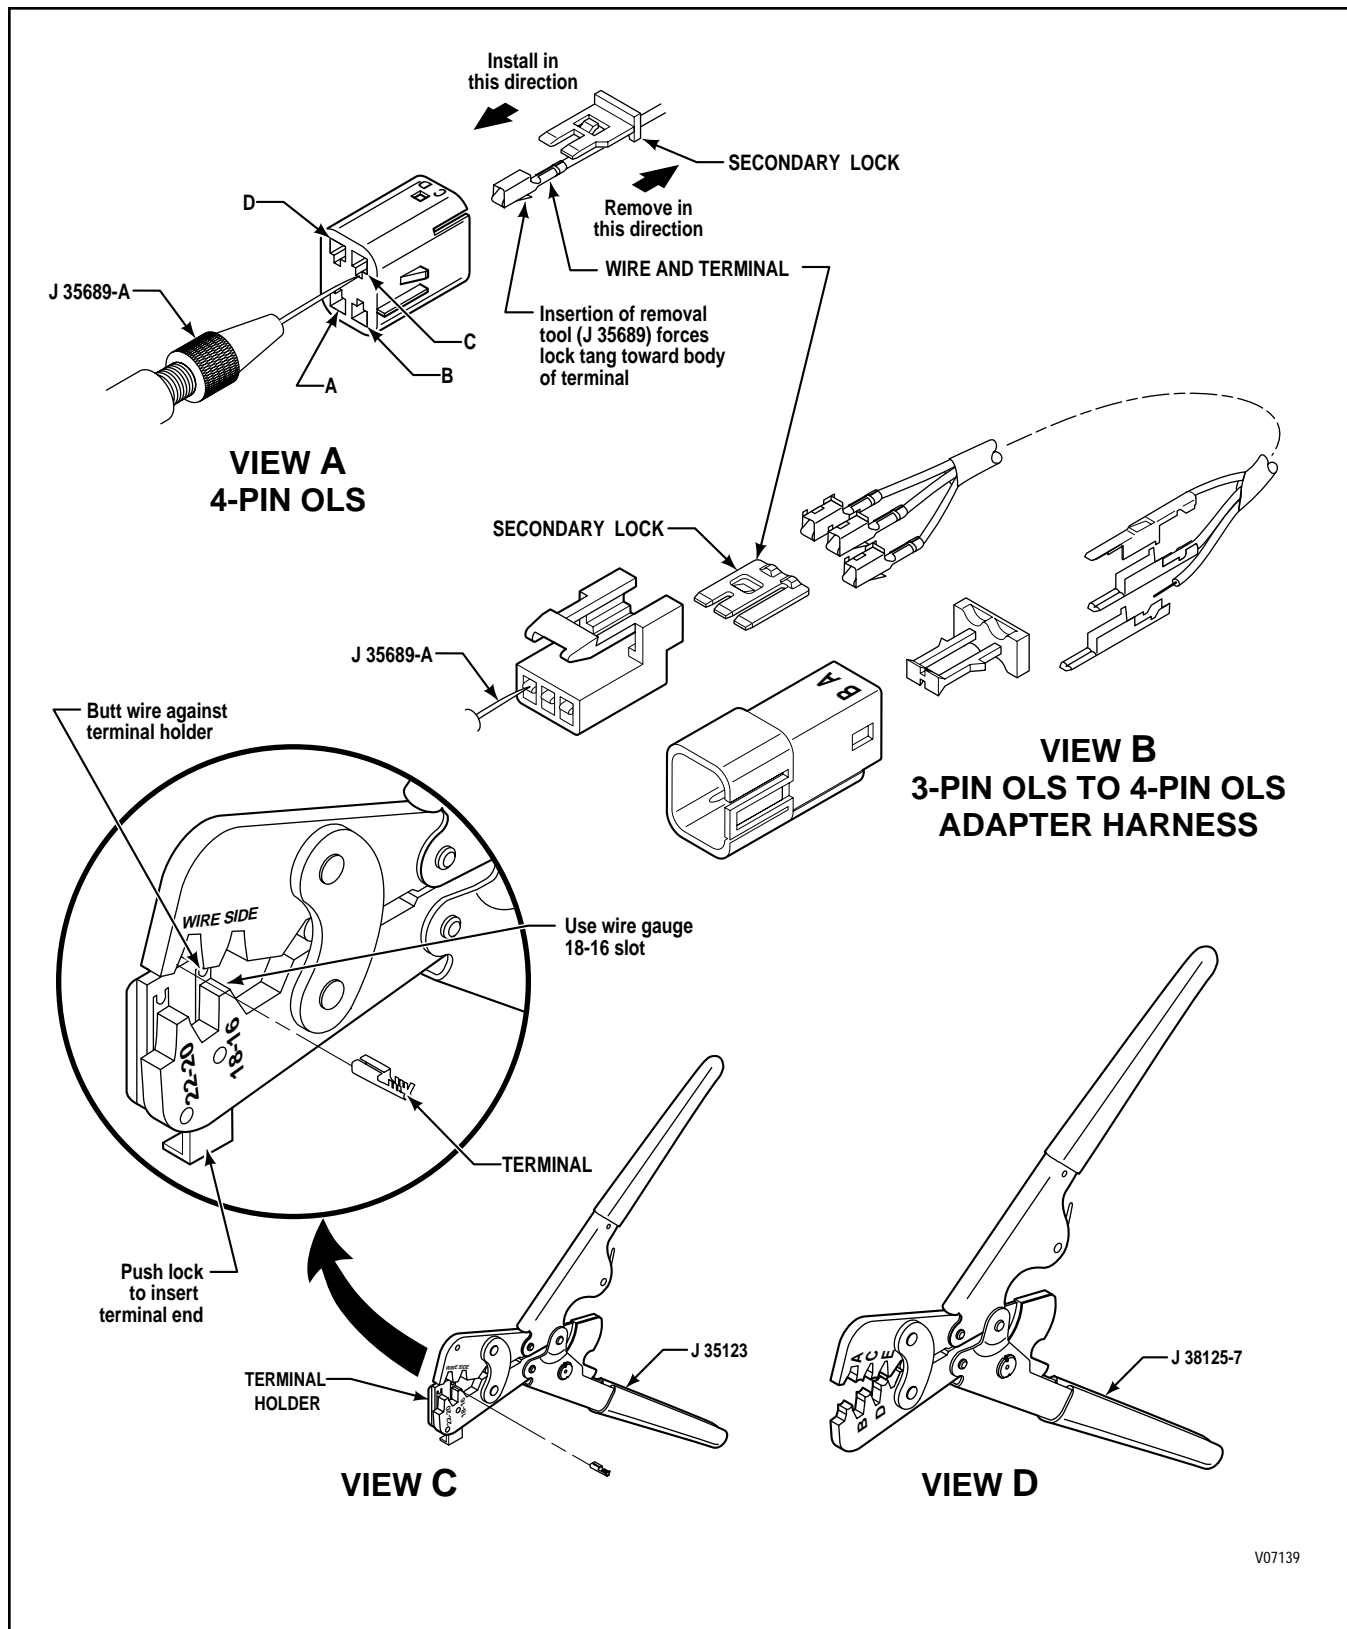

Figure E-3. Delphi-Packard Metri-Pack 150 Series Connectors — Push-to-Seat (Oil Level Sensor)
2. Insert needle end of terminal remover J 35689-A into the small notch between the connector and the terminal to be removed (Figure E-3, View A or View B). Push the lock tang toward the terminal.
2. Place core crimp portion of terminal on bed of anvil “E” and squeeze crimper enough to keep terminal from dropping (Figure E-3, View D).
1. Insert remover tool in front side of connector to release locktab and pull terminal out rear of connector. Pull the terminal and wire out the rear of the connector to complete Steps (3) through (7).
2. Push open the terminal holder on the crimper tool J 35123 and insert a terminal into the opening marked 18-16 (Figure E-3, View C) so that the crimp ends point up. Release the terminal holder.